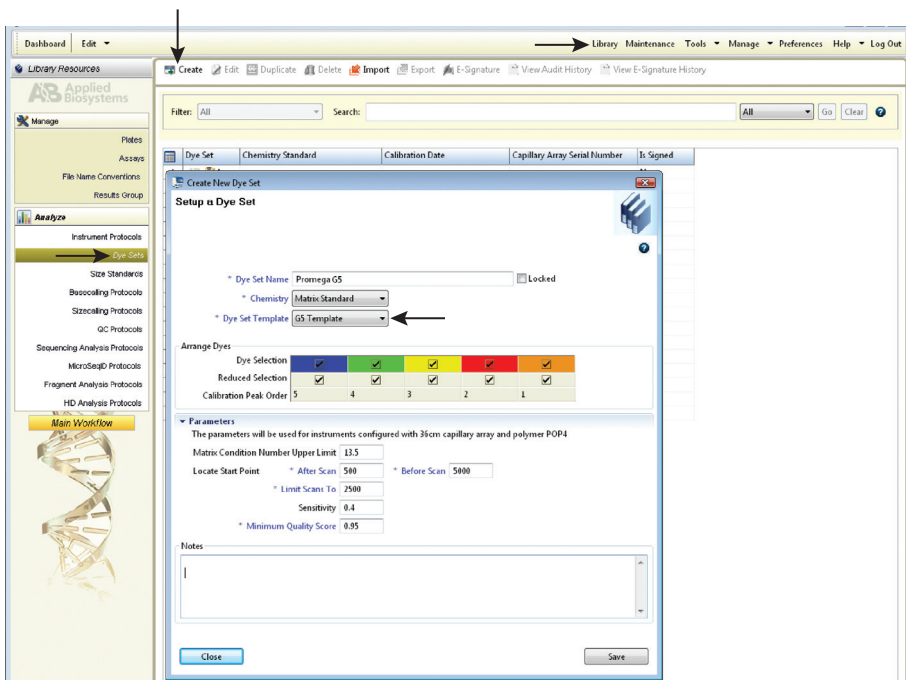

Figure 2. Create New Dye Set.
- b. The Create a New Dye Set tab will appear (Figure 2). Name the Dye Set, select “Matrix Standard” for the Chemistry and select “G5 Template” for the Dye Set Template. Select “Save”.